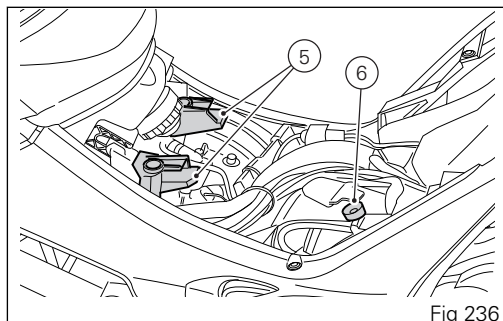

Fig 236
Position rider seat (4) front end, with slots (7), into guides (5, Fig 236) and engage pin (6, Fig 236) into its housing (8).
Make sure that pin (6, Fig 236) is engaged in its housing (8).